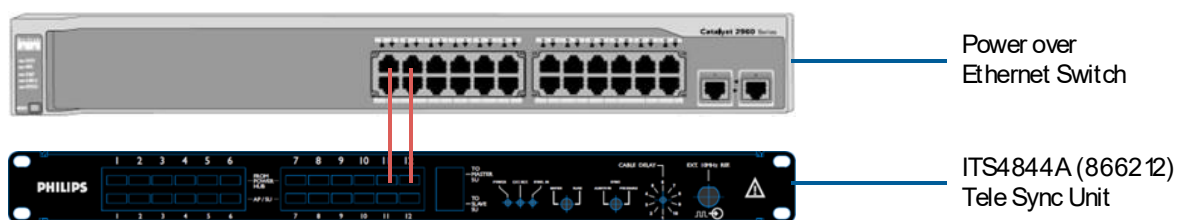

Figure 35: PoE Switch to Synchronization Unit Cable Connections
- d. Figure 35 shows cable connections between the Power over Ethernet (PoE) switch and the IntelliVue Sync Unit to support connection of two 1.4/2.4 GHz Smart-hopping Access Points.
Figure 35 shows cable connections between the Power over Ethernet switch and the Synchronization Unit to support connection of two 1.4/2.4 GHz Smart-hopping Access Points.